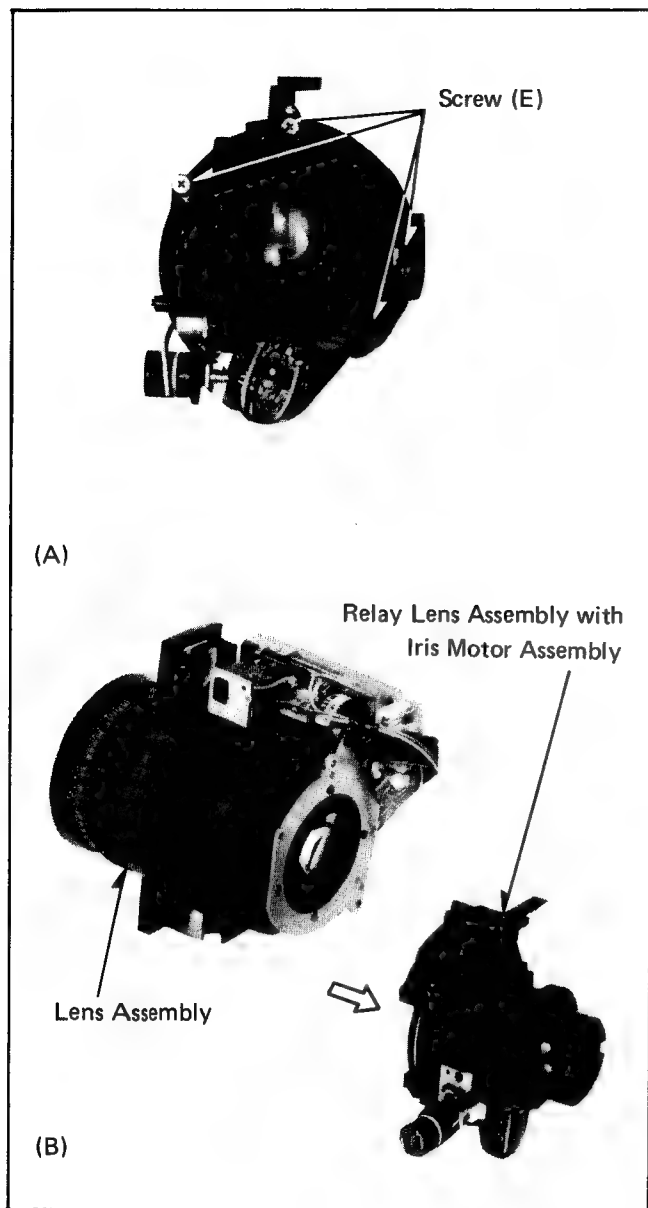

Fig. 21.
7-7. Unscrew 4 screws (E) and remove relay lens assembly with iris motor assembly (see Fig. 21-A/B).